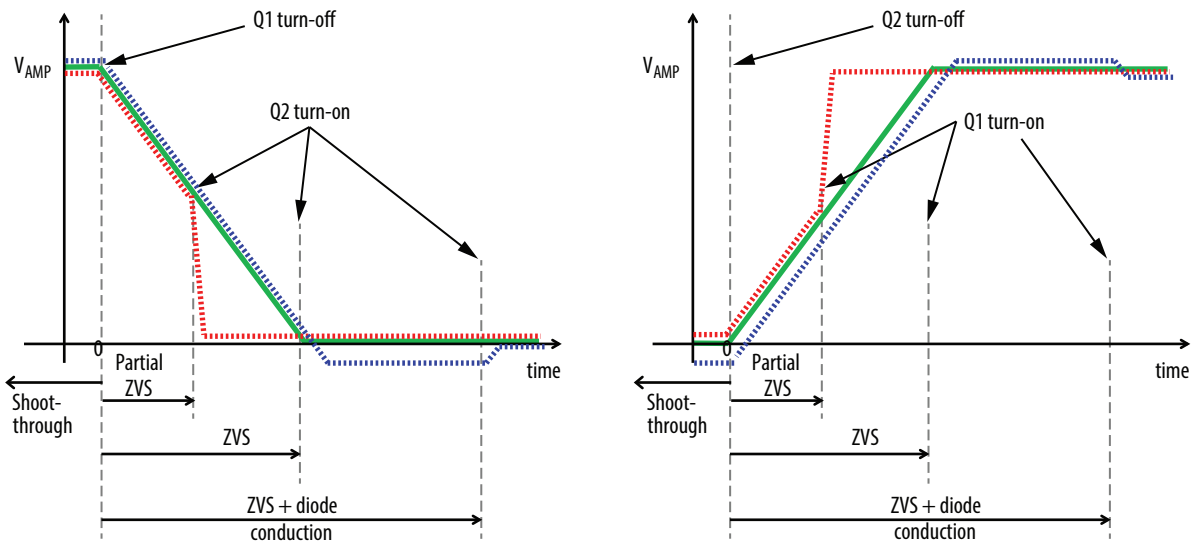

Figure 7: ZVS timing diagrams.
Setting the correct time to establish ZVS transitions is critical to achieving high efficiency with the EPC9512 amplifier. This can be done by selecting the values for R71, R72, R77, and R78 or P71, P72, P77, and P78 respectively. This procedure is best performed using a potentiometer installed at the appropriate locations that is used to determine the fixed resistor values. The procedure is the same for both single-ended and differential mode of operation. The timing MUST initially be set WITHOUT the source coil connected to the amplifier. The timing diagrams are given in figure 7 and should be referenced when following this procedure. Only perform these steps if changes have been made to the board as it is shipped preset. The steps are:
6. While observing the oscilloscope adjust the applicable potentiometers to achieve the green waveform of figure 7.